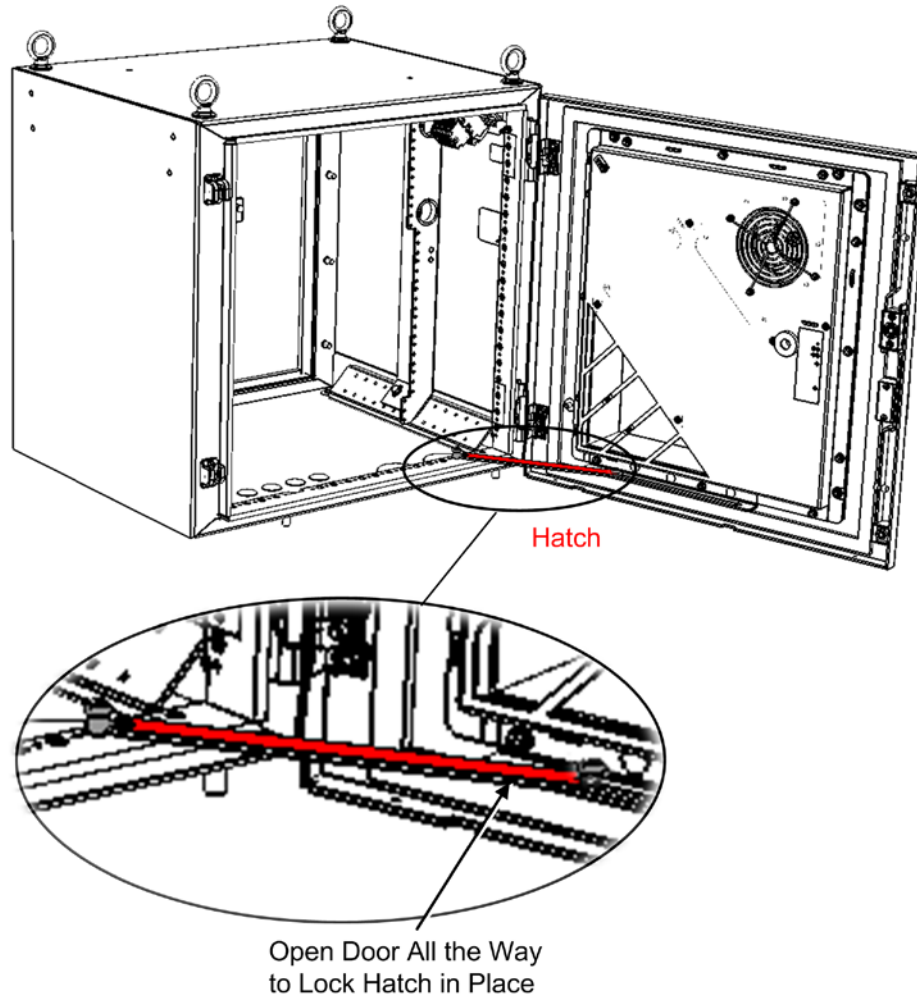

Figure 4-14. Opening Cabinet Door and Locking in Place
**ATTENTION!** Make sure that the door hatch locks into the door rail. See Figure 4-14.